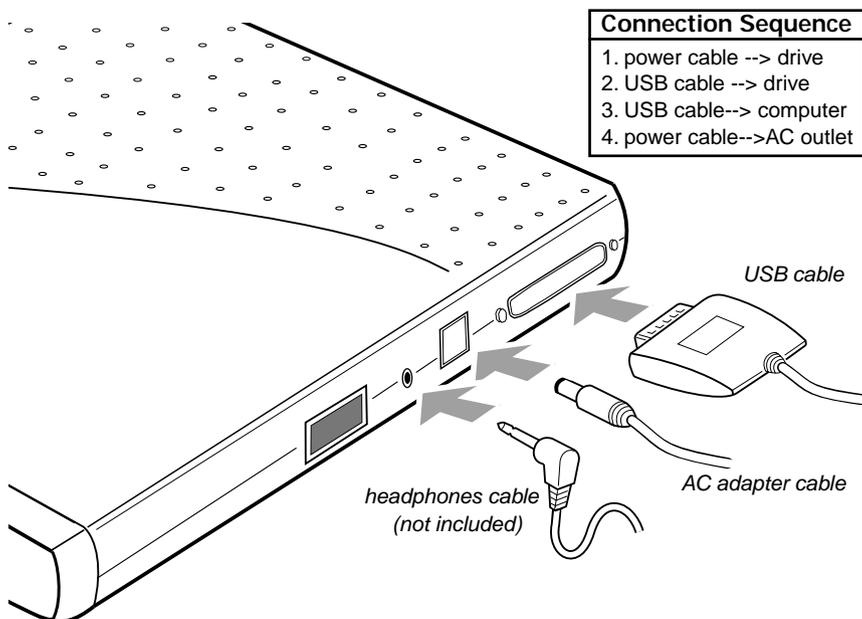

Figure 59. Connecting Cables
1. **Connect the appropriate end of the USB cable to the USB interface connector on the side panel of the PortaCD-RW (Figure 59).**
3. **Connect the AC adapter cable to the AC power input on the PortaCD-RW drive (Figure 59).**